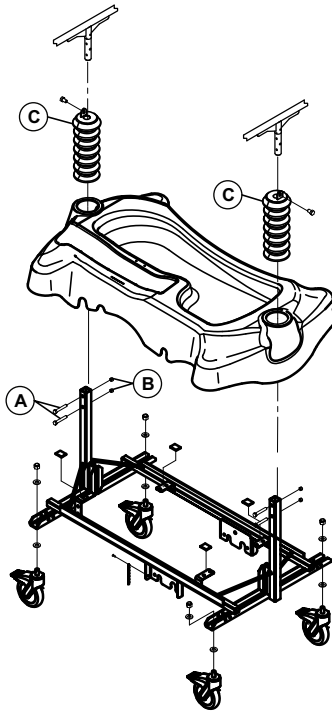
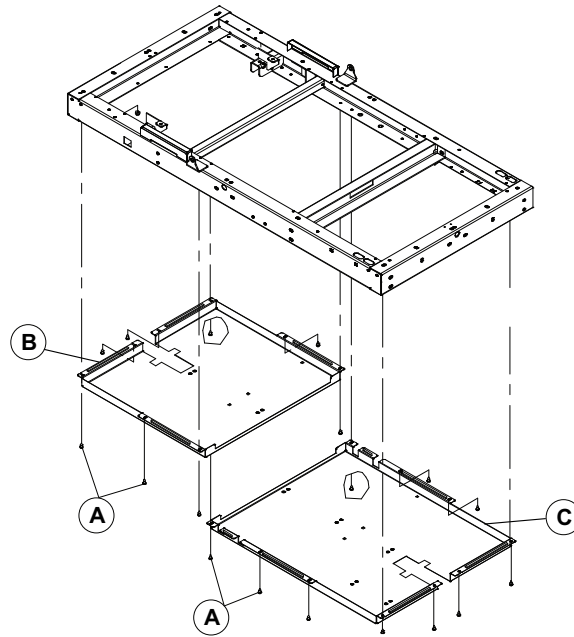

Figure 24 – Litter removal - fixed base
Figure 25 – Litter removal - hydraulic base
- Using a #2 Phillips screwdriver, remove the 18 screws (A) that secure the lower head (B) and foot (C) cover plates (Figure 25). Remove and save the cover plates. Save the screws.
- Lift the black bellows (C).
- Using two 1/2" combination wrenches, remove the four bolts (A) and four locknuts (B) that secure the litter support tubes to the two base posts (Figure 24). If the bolts are stuck, raise the end of the litter slightly to ease removal. Save the bolts and locknuts.